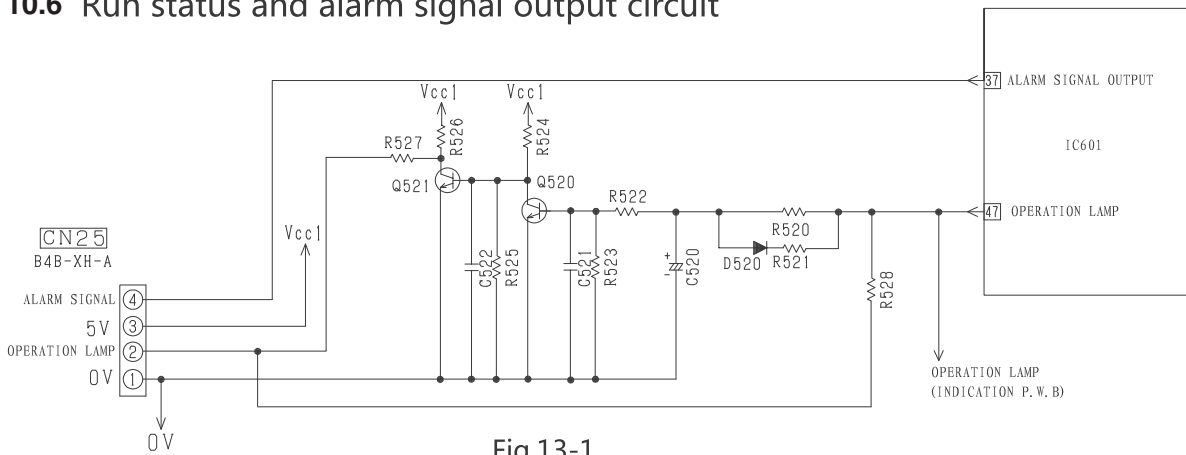

Fig.13-1
Fig.13-1 is the control circuit of run status and signal output in main PWB. The pin② of CN25 is used to show run status and the pin④ of CN25 is used to warn people when failure occurrence. If customer want to use this function, need to use the adapter (sold separately) to achieve it. the adapter is optional and the detail circuit refer to following circuit.